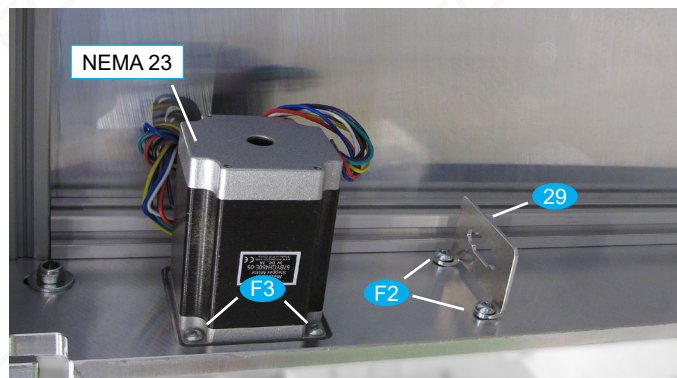

Fig. 22: Y motor and holding plate for plug connection
- Use flat-head screws **F3** to bolt the motor into the hole provided in the rear end plate. See Fig. 22.